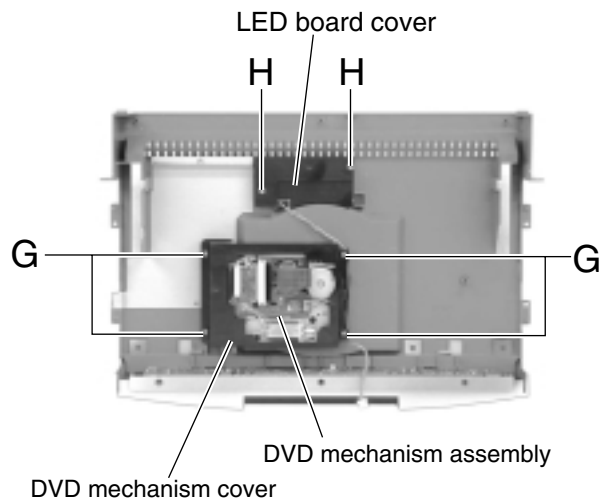

Fig.10
■ Removing the DVD mechanism assembly (See Figs.10 and 11)
■ Removing the LED board (See Figs.10 and 11)